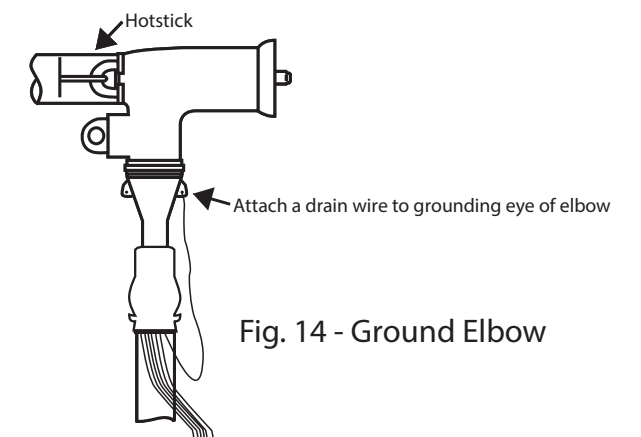

Fig. 14 - Ground Elbow
F. Attach a #14 AWG copper wire (or equivalent) to the grounding eye of the elbow. Twist the wire at least two turns. Attach the free end to system ground. See Figure 14.